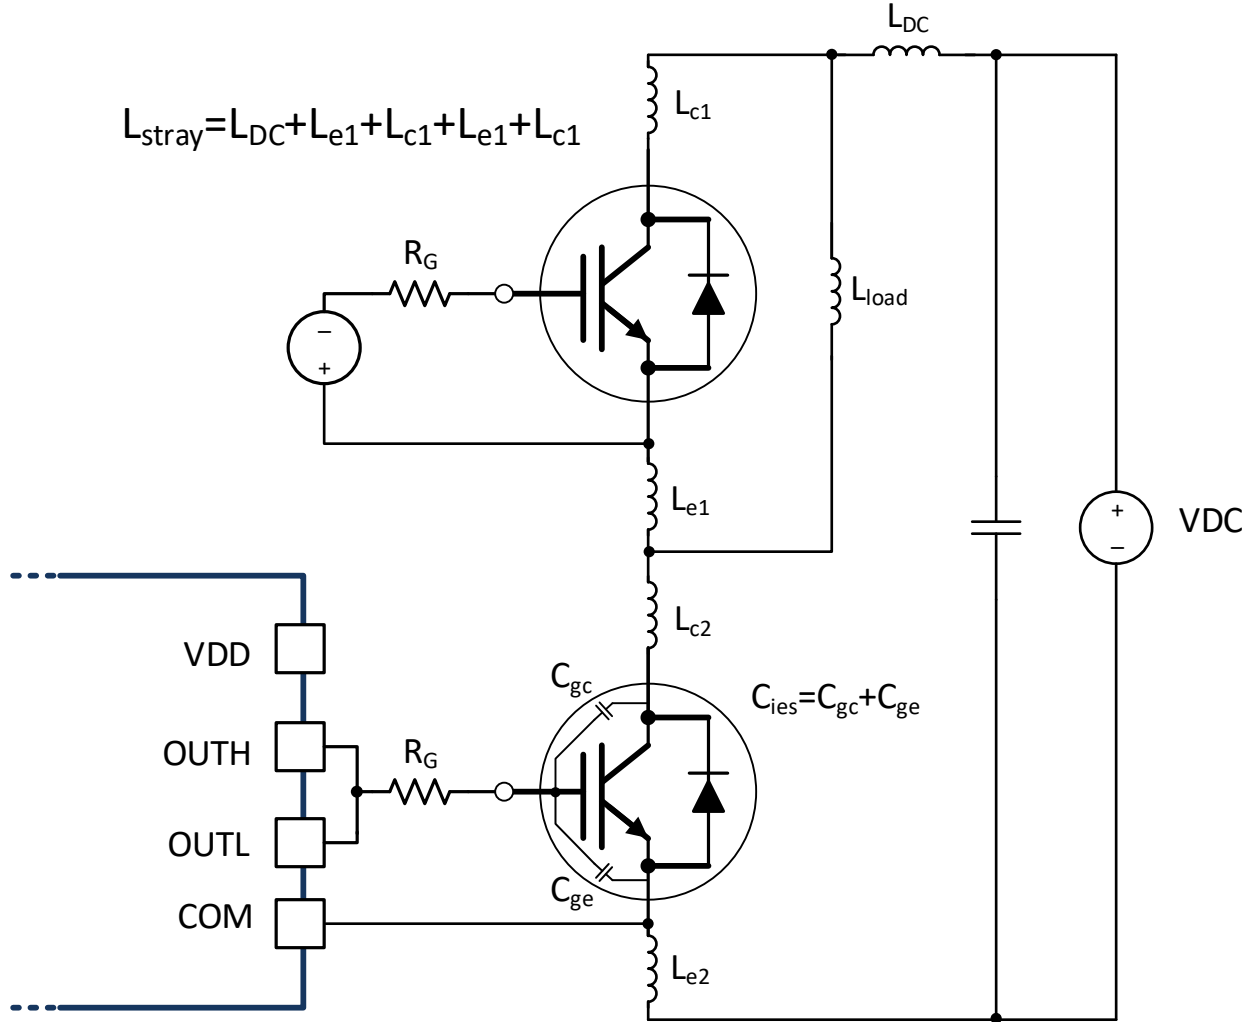

图 8-6. Stray Parasitic Inductance of IGBTs in a Half-Bridge Configuration
- L_{stray} is the stray inductance in power switching loop, as shown in 图 8-6